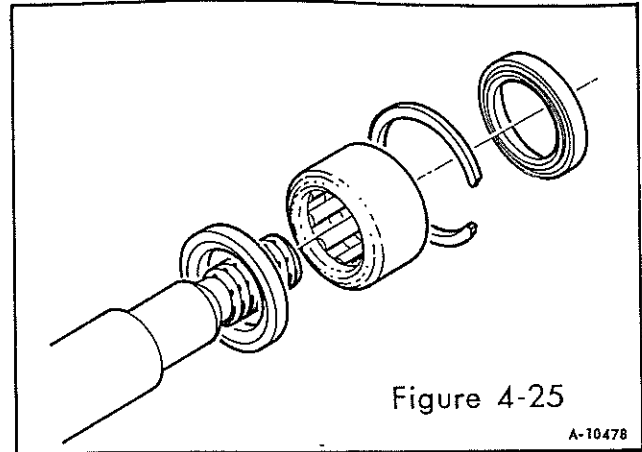

Figure 4-25
2. Place the thrust plates on the crankshaft with the chamfered side of the thrust plates against the crankshaft throw (Figure 4-25).